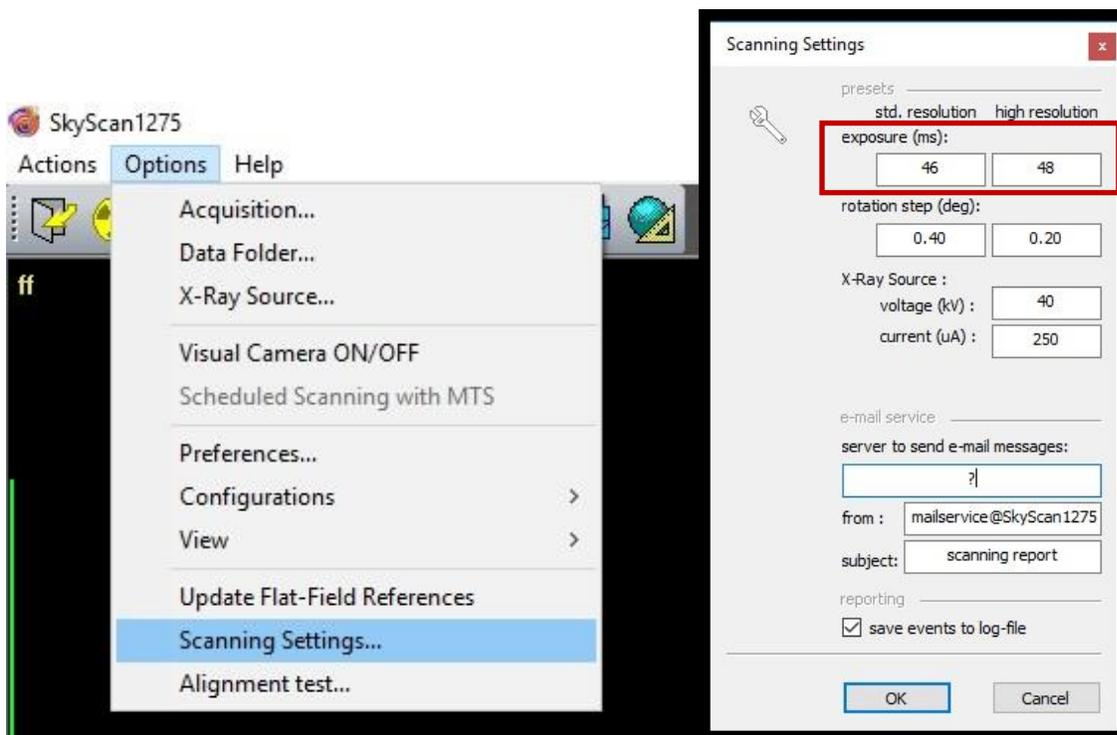

Figure 4. Scanning settings to adjust the exposure time.
5. Go to “Options -> Scanning Settings” and adjust the exposure time accordingly to bring the intensity to 60%. Then press “OK” (Figure 4).